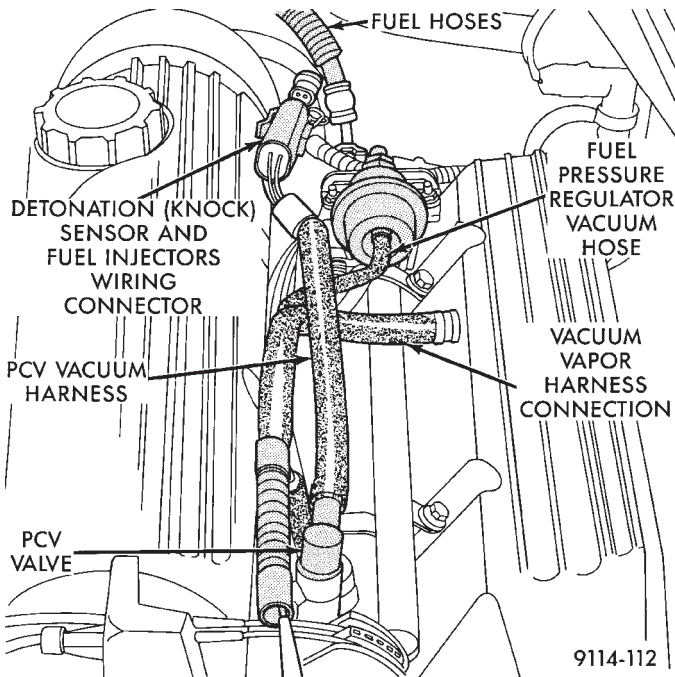

Fig. 17 Electrical, Fuel, and Vacuum Connections
(22) Verify hose from PCV valve is securely attached to the intake manifold vacuum port (Fig. 17).
(23) Check vacuum hose connection between vacuum source and fuel pressure regulator (Fig. 17).
(24) Check Fuel Injectors Wiring Connector and Detonation Sensor connector (Fig. 17).